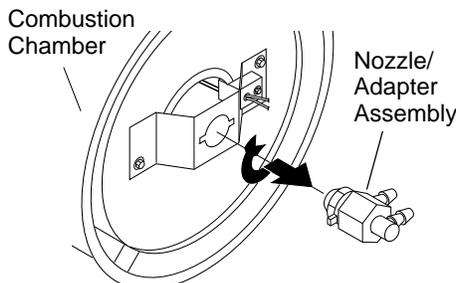

Figure 14 - Removing Nozzle/Adapter Assembly
4. Turn nozzle assembly 1/4 turn to left and pull toward motor to remove (see Figure 14).